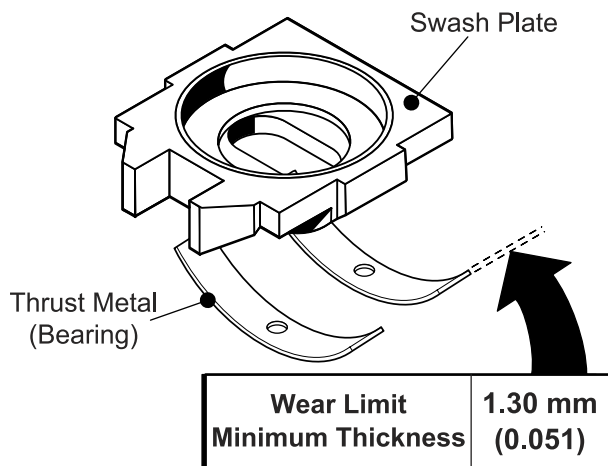

Fig. 39, Thrust Metals Tolerance
- Using calipers (digital recommended) measure the thickness of both Thrust Metals for wear. If the clearance is  $< 1.30$  mm (0.051 in), replace Thrust Metals as a set. (Fig. 39)